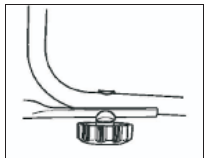

Fig.2D
B) Release the upper handlebars for folding. Connect the upper handle and the lower handle with the locking knobs. (Fig.2D)